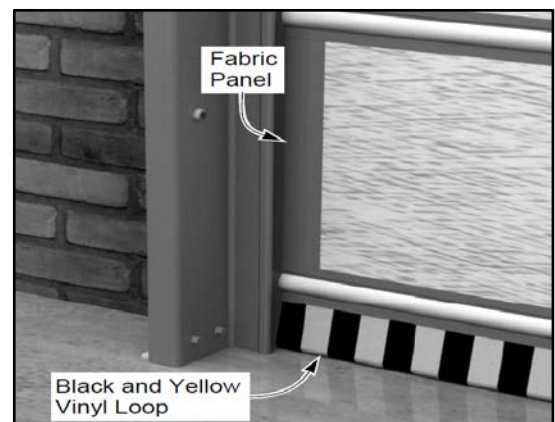

Figure 68
2. Inspect the black and yellow vinyl seal for tears and abrasion. Replace any worn or damaged parts as required. (See Figure 68)